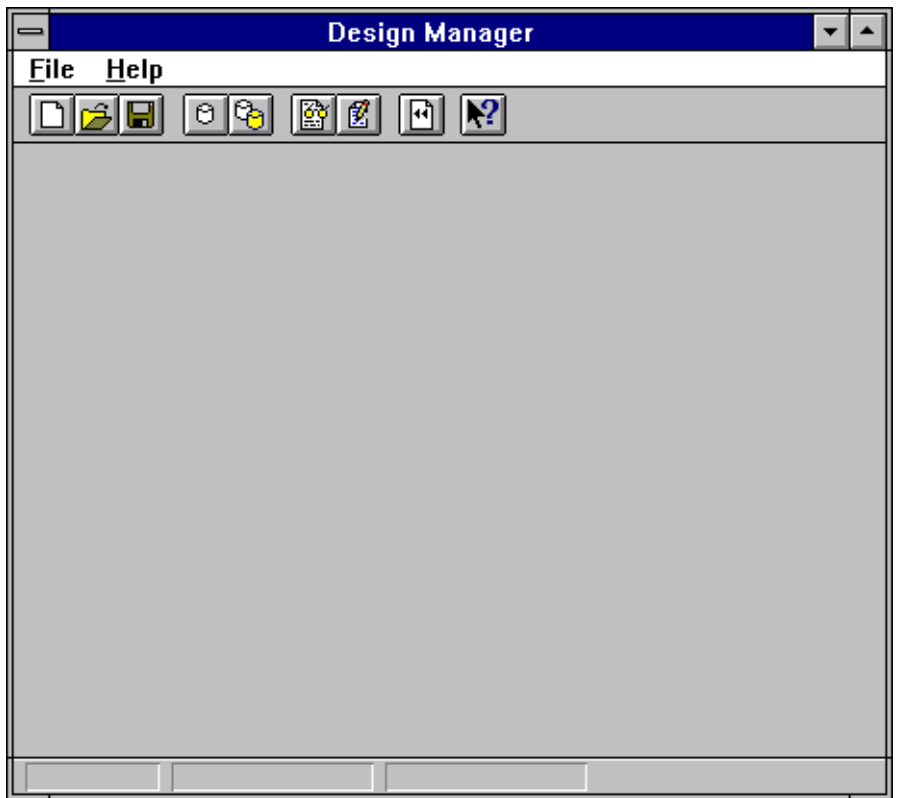

Figure 1-3 The Design Manager Window with No Design
1. Start the Design Manager. The initial Design Manager window, before you have opened a design, looks as shown in Figure 1-3.